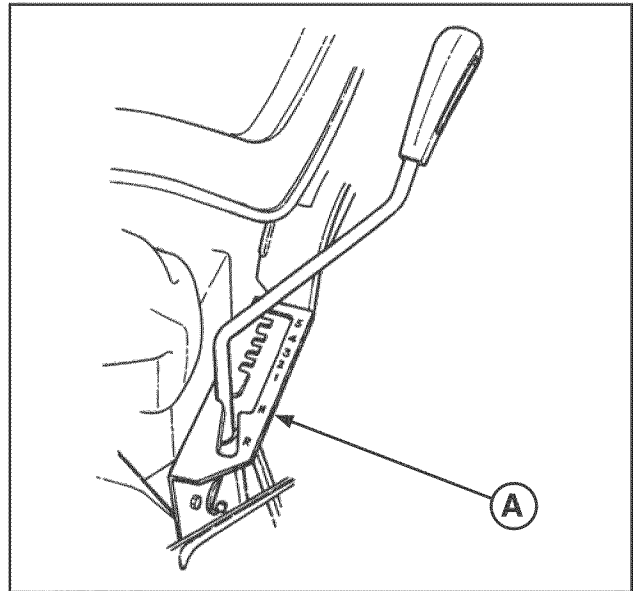

FIGURE 4
1. Move the transmission shift lever (**A**, Figure 4) to the (N) **NEUTRAL** position.